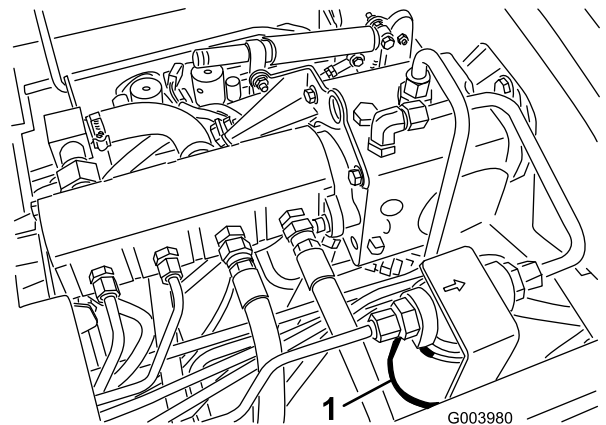
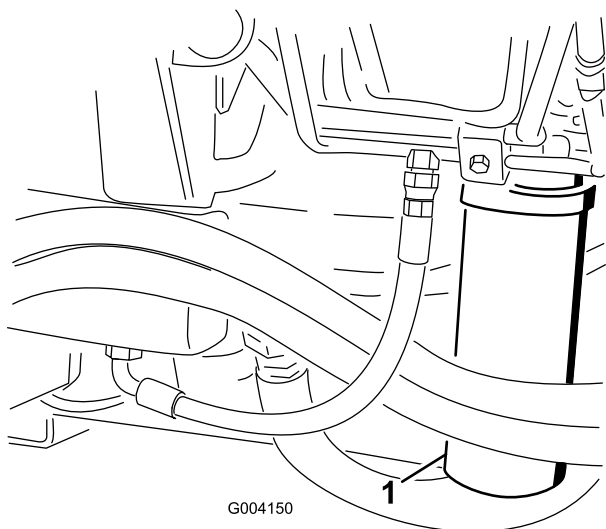

Figure 74
Figure 75
2. Clean the area around the filter mounting area and place a drain pan under the filter (Figure 74) and (Figure 75).